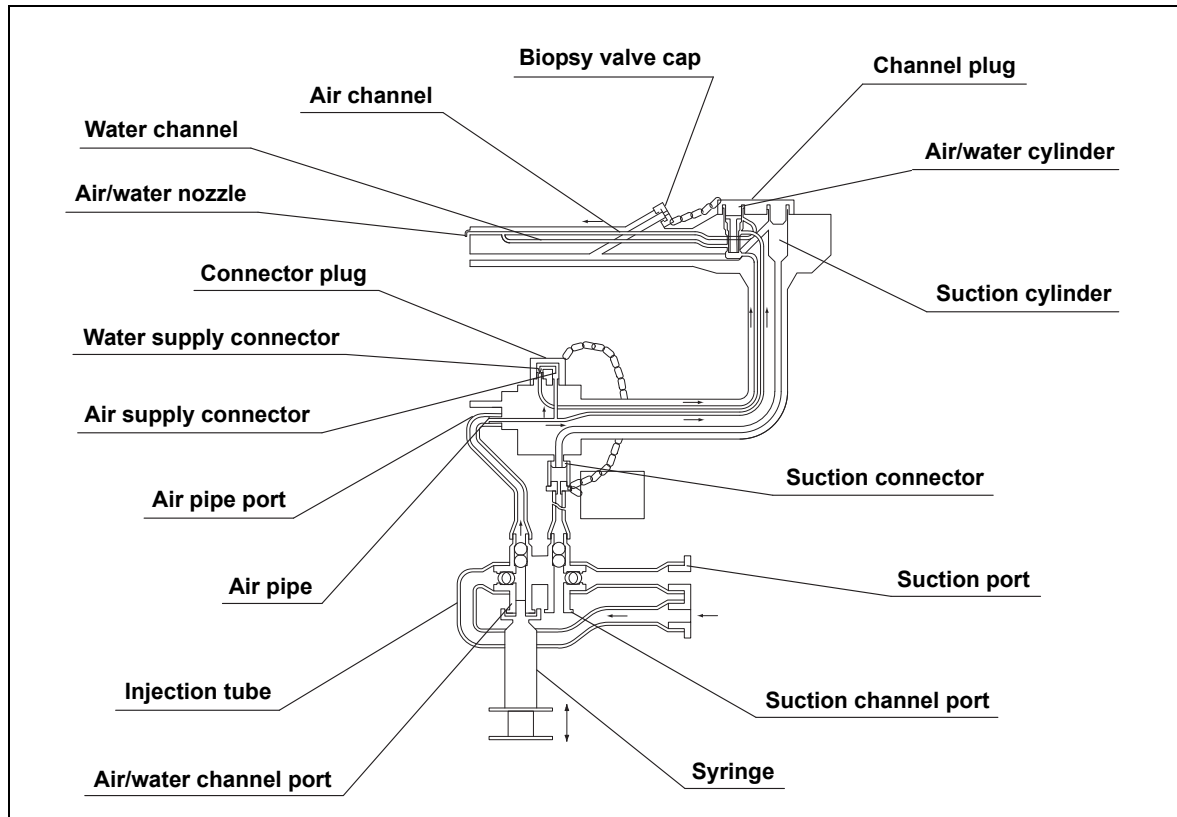

Figure 3.27
7. Attach the 30 cm3 (30 ml) syringe to the injection tube's air/water channel port (see Figure 3.27).
2. Attach the 30 cm3 (30 ml) syringe to the injection tube's air/water channel port and inject 90 cm3 (90 ml) of clean water into the air/water channel (see Figure 3.27).
8. Attach the 30 cm3 (30 ml) syringe to the injection tube's air/water channel port and flush the air/water channel with 90 cm3 (90 ml) of air (see Figure 3.27).